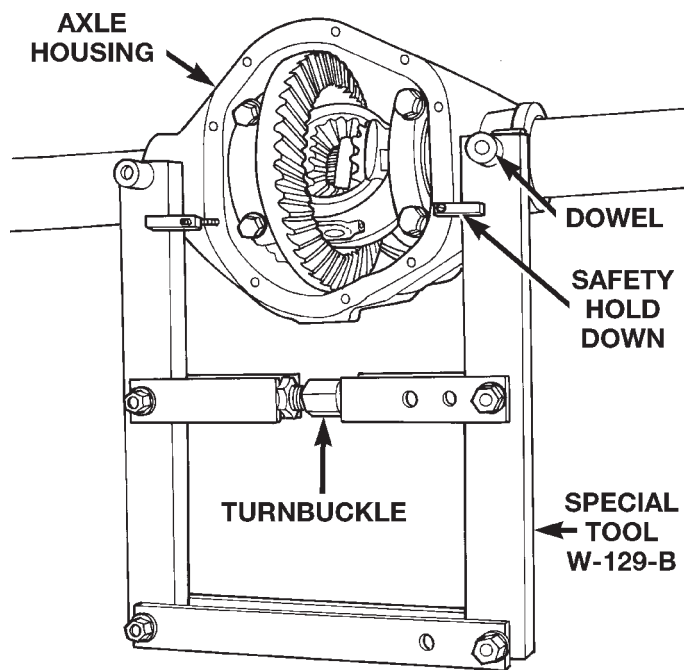

Fig. 28 Install Axle Housing Spreader
- (6) Loosen the differential bearing cap bolts.
- (7) Position Spreader W-129-B, utilizing some items from Adapter set 6987, with the tool dowel pins seated in the locating holes (Fig. 28). Install the hold-down clamps and tighten the tool turnbuckle finger-tight.